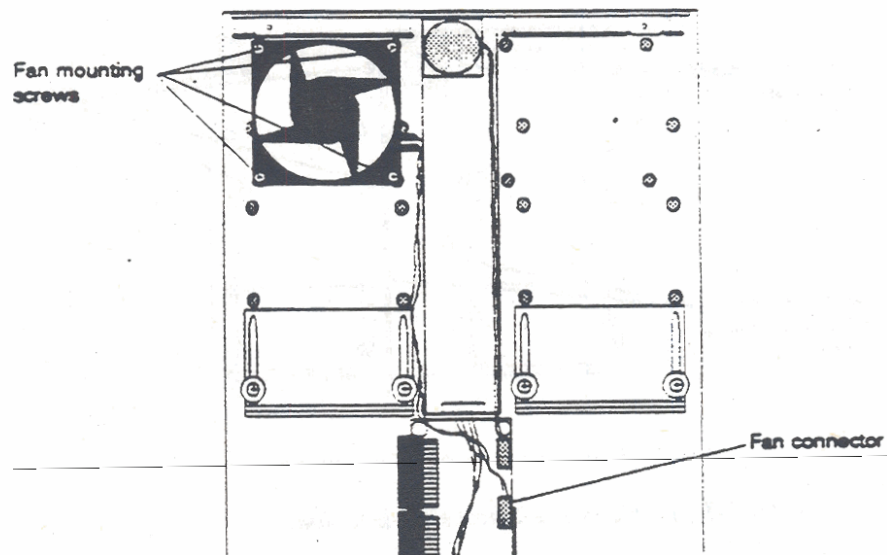

Figure 7-2. Removing the Auxiliary Fan
1. Loosen the four phillips-head screws that secure the auxiliary fan to the expansion tray (see Figure 7-2). (You don't need to remove these screws from the fan, just completely loosen them.)